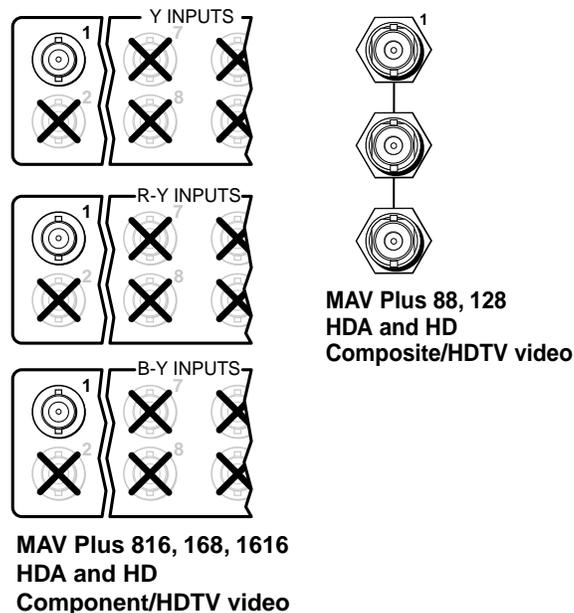
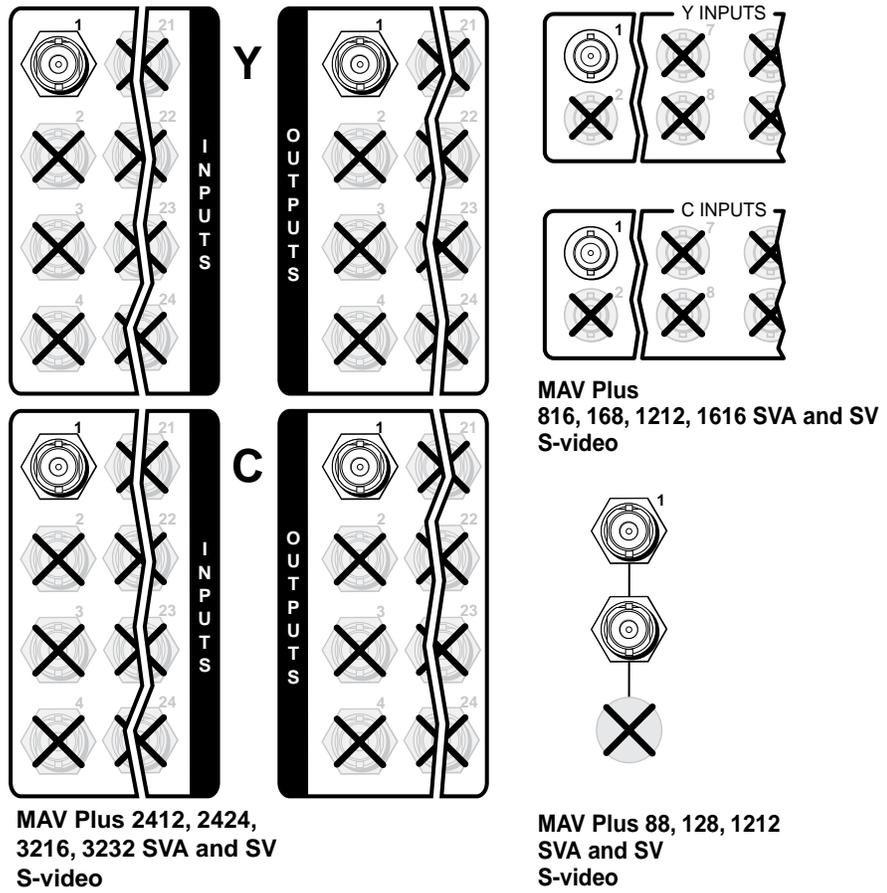
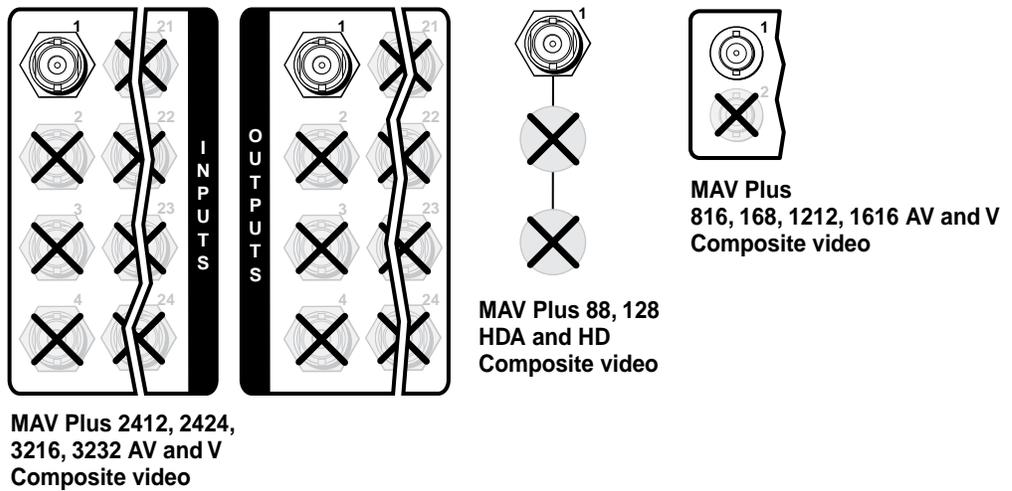

Figure 2-14 — MAV Plus component/HDTV video connections
Figure 2-15 — MAV Plus S-video connections
Figure 2-16 — MAV Plus composite video connections
NOTE The connectors for each video plane are grouped together (for example, for component/HDTV switchers, all of the Y inputs grouped together, all of the R-Y inputs grouped, and so on). Ensure that you connect the input on each video plane to the corresponding connector in the correct group (figure 2-14 through figure 2-16, below and on the next page).
- ① **Video inputs** — Connect component/HDTV video (figure 2-14), S-video (figure 2-15), or composite video (figure 2-16) inputs, as applicable, to these BNC connectors for each input.
- ② **Video outputs** — Connect component/HDTV video (figure 2-14), S-video (figure 2-15), or composite video (figure 2-16) displays, as applicable, or other devices to these BNC connectors for each output.
NOTE The S-video (figure 2-15) and composite video (figure 2-16) connection drawings are all on the next page.